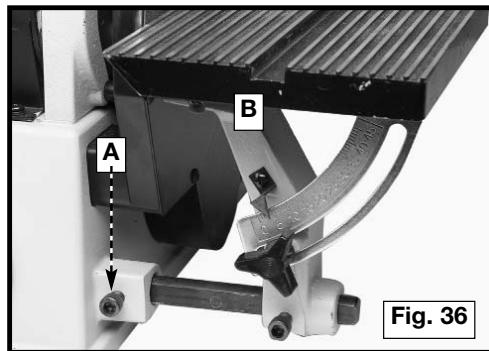

Fig. 36
1. Loosen the screw (A) Fig. 36 to remove the table assembly (B).